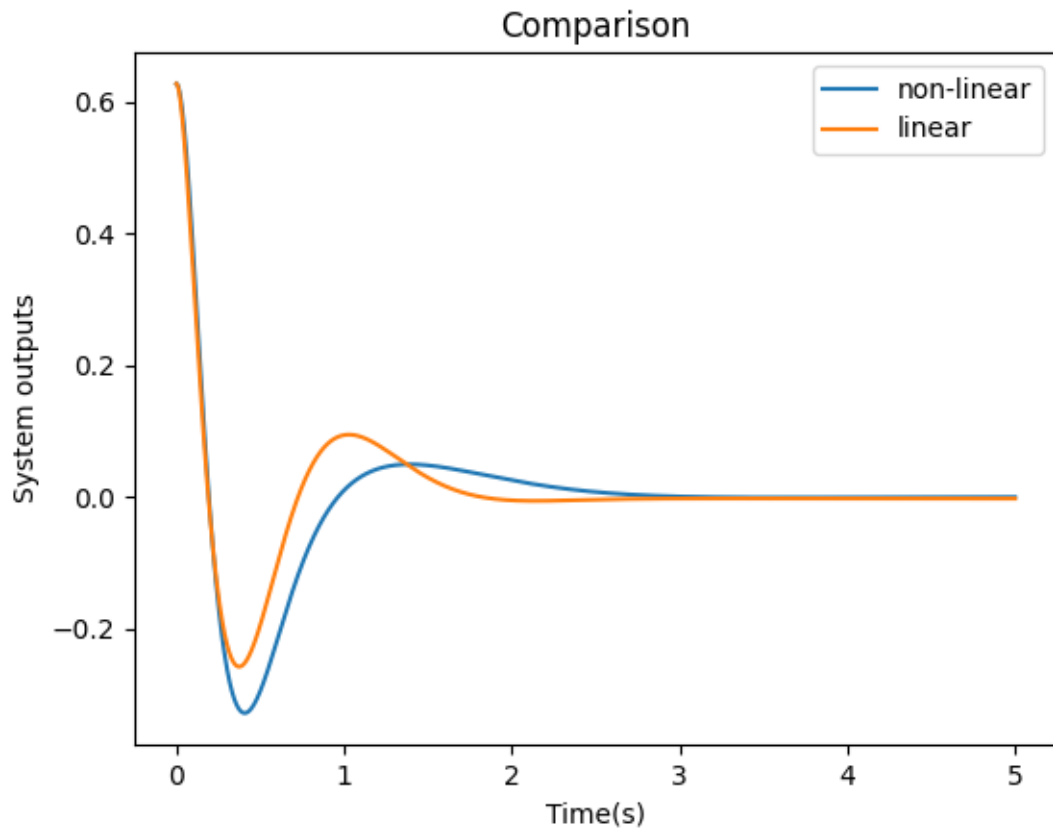

Figure 9: Comparison
4. The comparison between the linear and non-linear system can be seen below in Figure 9